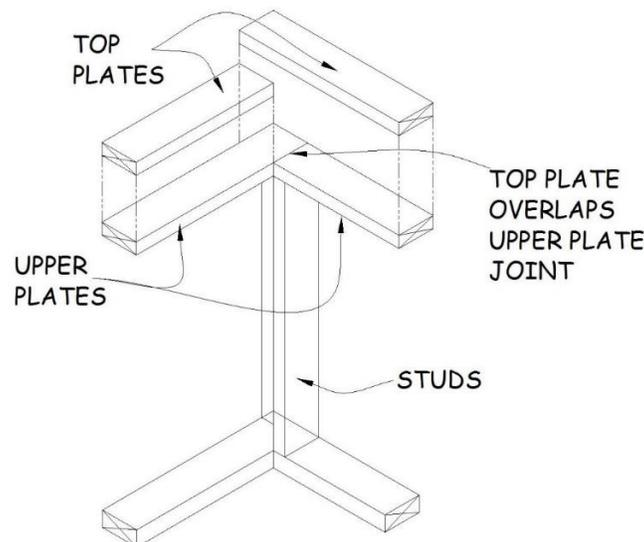

Figure 5-4. Interior Wall Top Plate Installation.
6. When nailing top plates, use three 3¼” collated nails or 16d nails across 2x6 plates and two 3¼” collated nails or 16d nails across 2x4 plates. Nail at each intersection of top plates and nail at each stud location. Note that the top plates at an intersection overlap the joints of the walls below (see Figure 5-4).